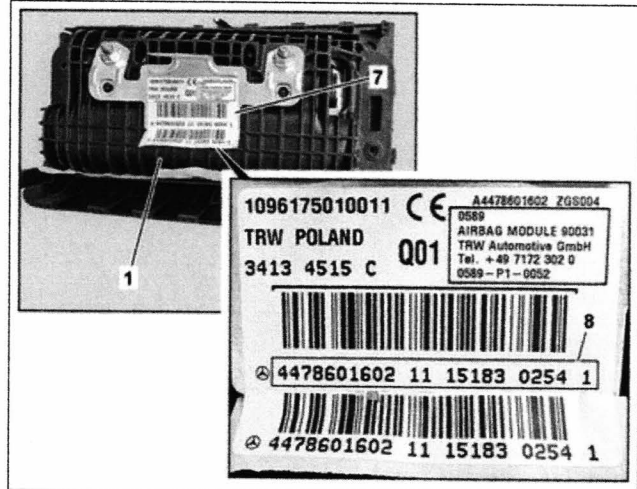

Figure 6 (1 Air bag 7 Label with barcode 8 22 digit characters)
8. Record 22-digit characters (8, Figure 6) for new front passenger airbag (1) found on adhesive label with barcode (7) prior to installation.
9.  Install new air bag (1, Figure 6) in reverse order.
- Install new front passenger airbag (1, Figure 6) with cover (5, Figure 5).
- New front passenger airbag (1, Figure 6) with cover (5, Figure 5) is supplied as a unit.
- When installing new front passenger airbag (1, Figure 6), check cover (5, Figure 5) is correctly seated in dashboard.
11. Record 22-digit characters (8, Figure 6) found on adhesive label with barcode (7) of new front passenger airbag (1) on repair order.